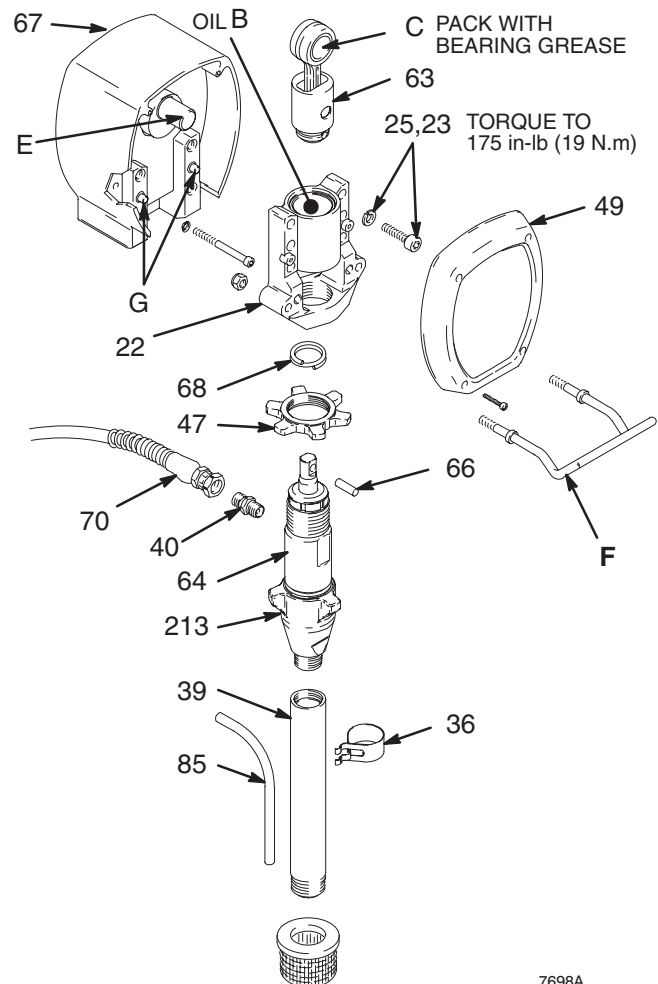

Fig. 17
NOTE: Read **General Repair Information** on page 16 before doing this procedure. See Fig. 17.
14. Install remaining parts. See Fig. 17.